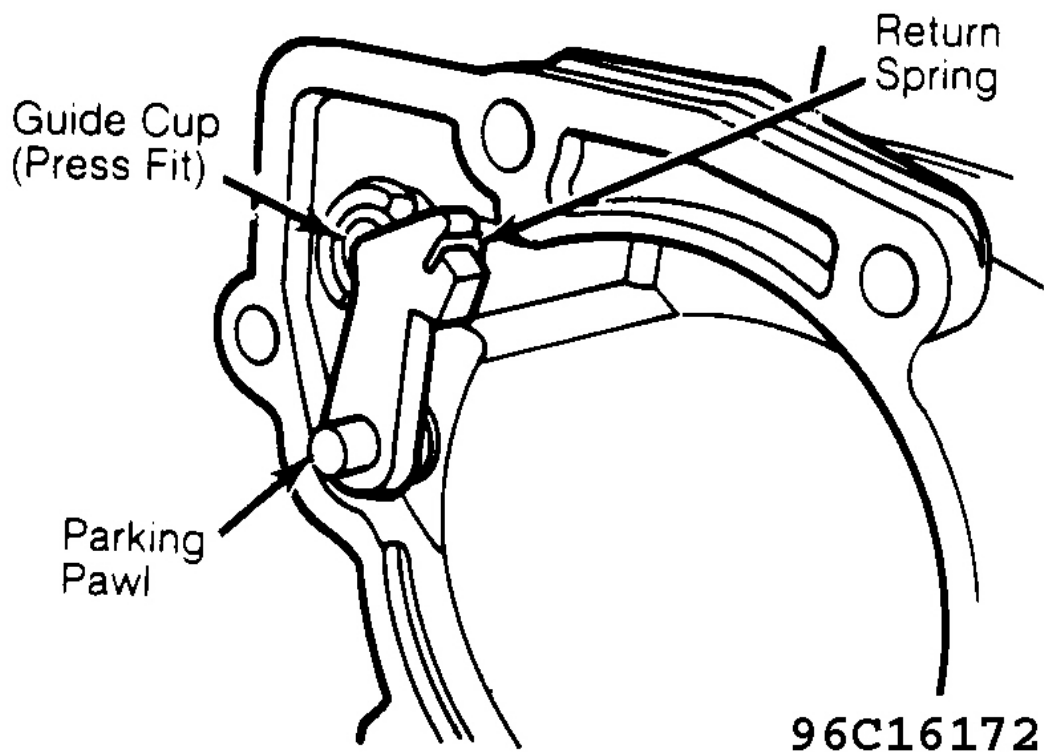
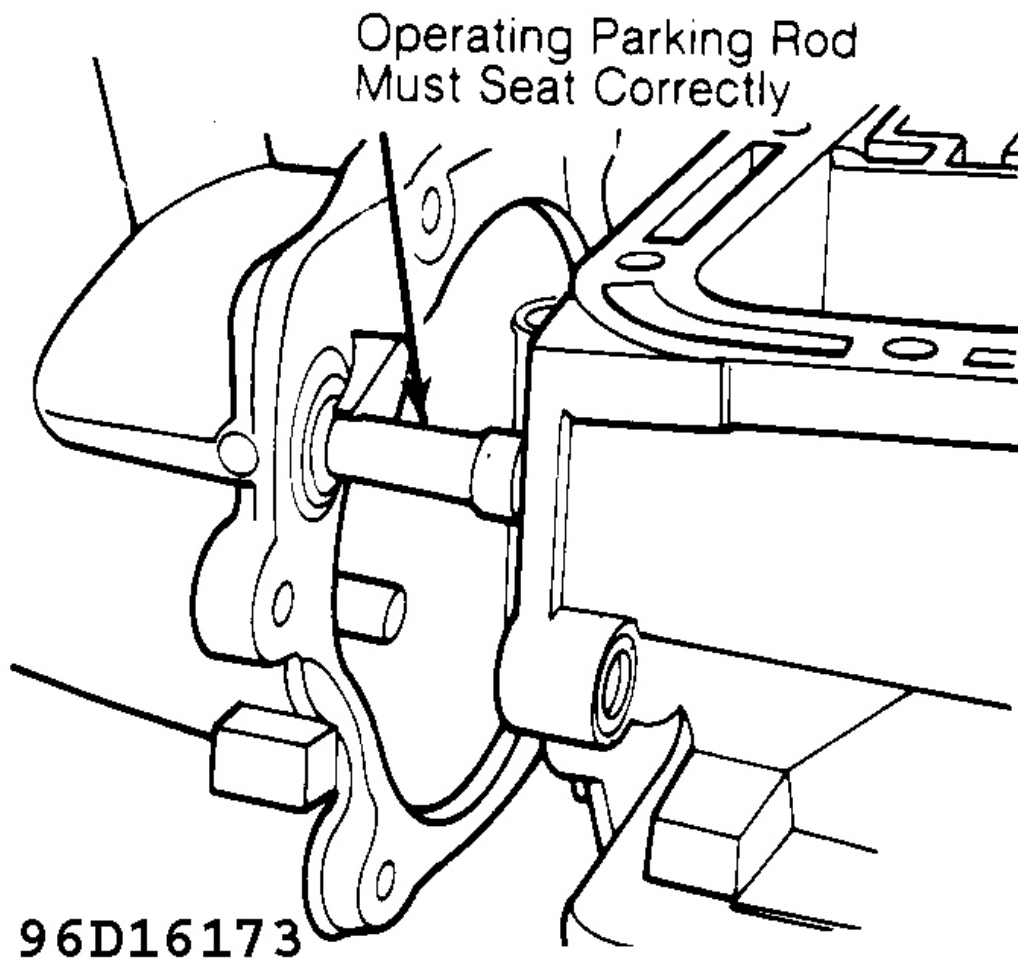

Fig. 41: Interior View of Extension Housing
Fig. 42: Rear of Transmission Housing
17. Install parking pawl and return spring in extension housing and preload. See **Fig. 41** . Using new gasket, install extension housing. Make sure to correctly seat operating parking rod in extension guide cup. See **Fig. 42** . Install and tighten bolts. Replace extension housing oil seal and bushing.